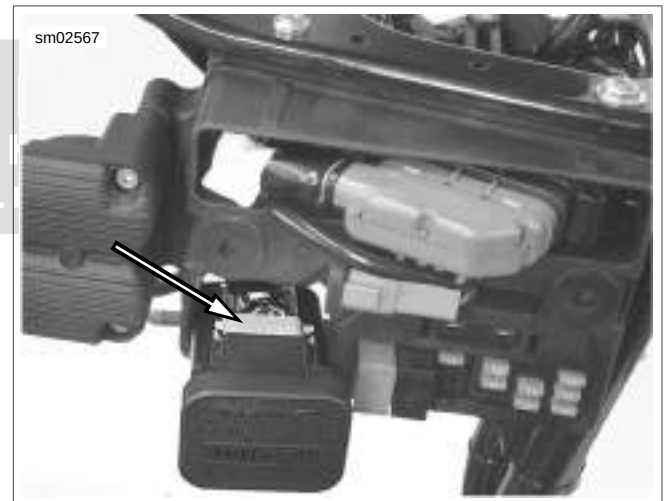

Figure 7-38. TSM/TSSM/HFSM Connector [30] (typical)
5. See Figure 7-38. Unplug turn signal module connector.
1. See Figure 7-38. Partially install TSM/TSSM/HFSM into electrical caddy.
4. See Figure 7-38. Slide TSM/TSSM/HFSM into electrical caddy until tab engages TSM/TSSM/HFSM.